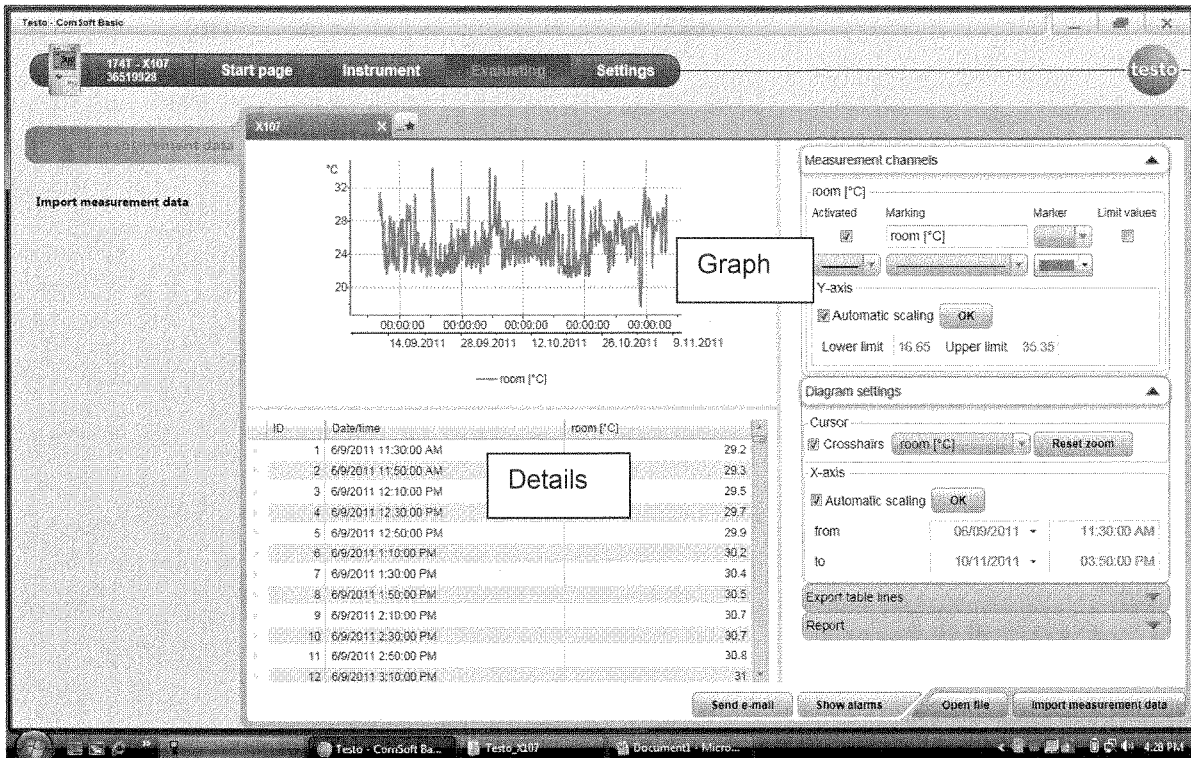

Fig 5.10: Data overview for graph and table
Step 7: Data will appear in graph and table after you click start import.(fig 5.10).